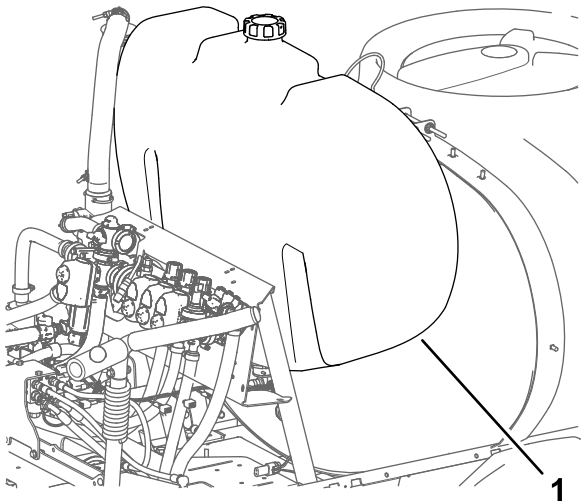

Figure 13
1. Assemble the rinse tank onto the machine as shown in Figure 13.